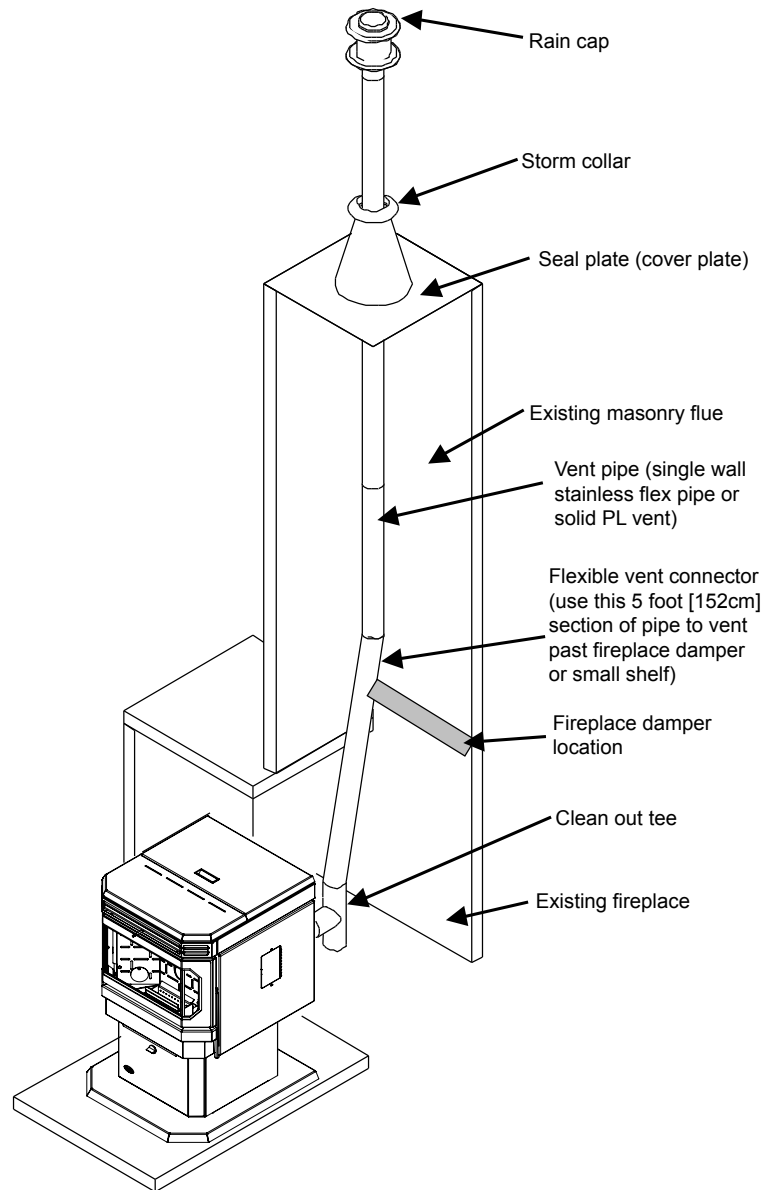

Figure 36: Freestanding hearth mount installation overview.
6. Insert each side panel anchor bolt through the top panel into the corresponding side panel holes and tighten using a $7/16$ " wench or socket (refer to Figure 36).